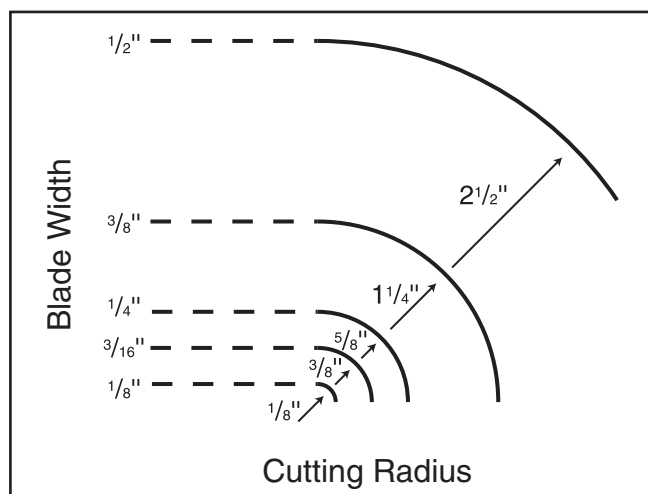

Figure 50. Blade width radii.
- **Curve Cutting:** Use the chart in **Figure 50** to determine the correct blade for curve cutting. Determine the smallest radius curve that will be cut on your workpiece and use the corresponding blade width.